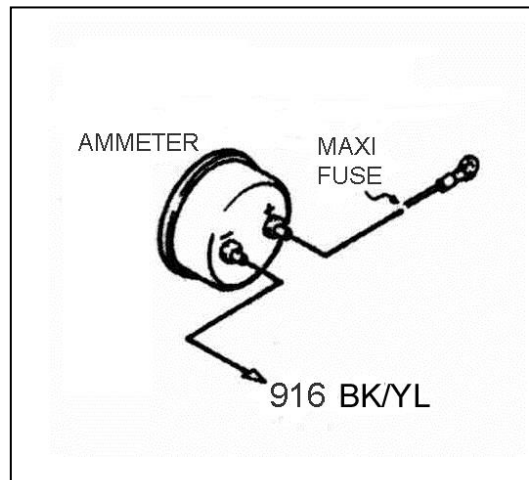

Figure 8-1 Ammeter & Maxi Fuse
8.1 Connecting an Ammeter and the Maxi Fuse. See Figure 8-1.